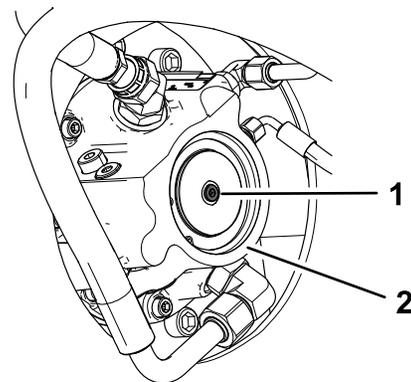

Figure 31
3. For each drive motor, remove the plug and install a screw (M8–1.25 x 40 mm) and washer (M8 x 16 mm) in its place (Figure 31). Hand-tighten the hardware.